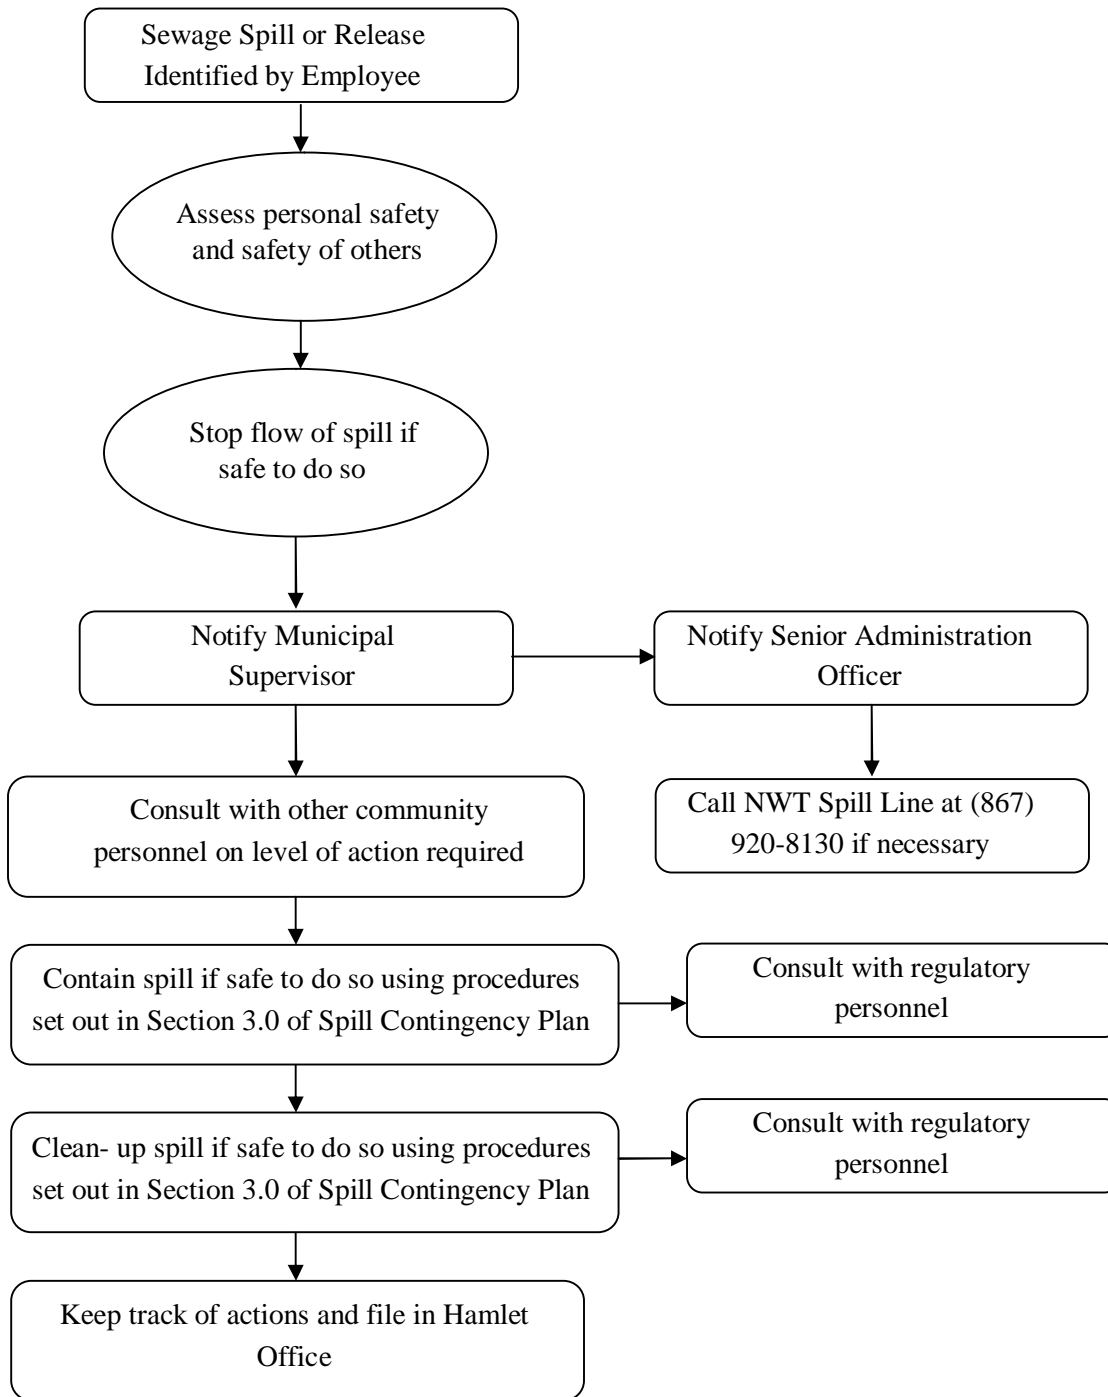

Figure 2: Flowchart of Communication Lines
- Contact Municipal Supervisor, as per flowchart in Figure 2.